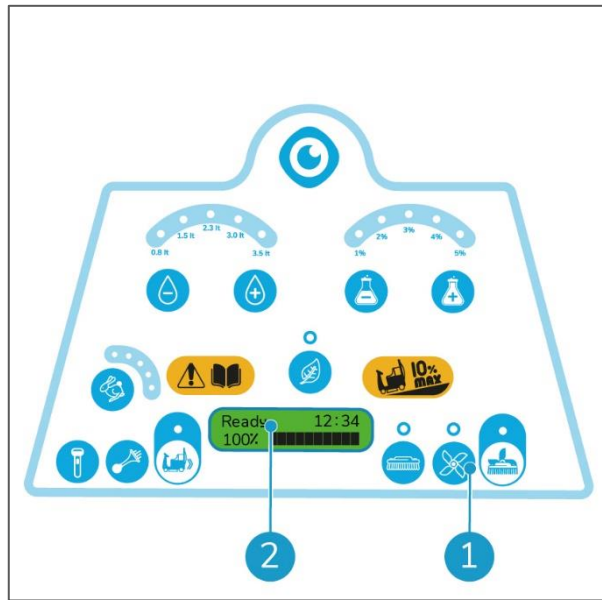

Figure 71
2. Turn the ignition key to the ON position. After a few seconds the text "Ready" appears on the display (Figure 71, pos 2).
3. Press the push button (Figure 71, pos 1). The squeegee moves to its lowest position.
14. Turn the ignition key to the ON position. After a few seconds the text "Ready" appears on the display (Figure 71, pos 2).